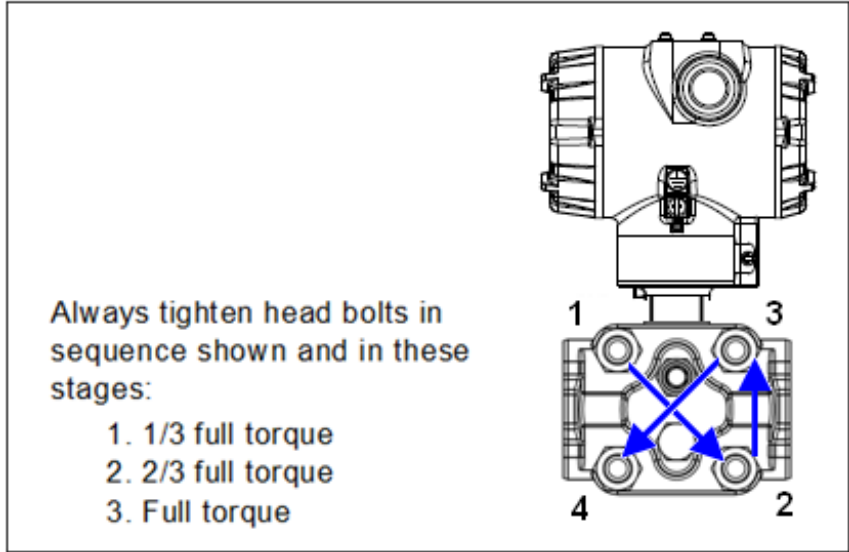

Figure 22 – Head Bolt Tightening Sequence
4. Loosen the nuts in the sequence shown in Figure 22.
12. Using a torque wrench, gradually tighten the nuts in the sequence shown in Figure 22. Tighten head bolts in stages of 1/3-full torque, 2/3-full torque, and full torque. See Table 19 for torque requirements versus Transmitter type and model.